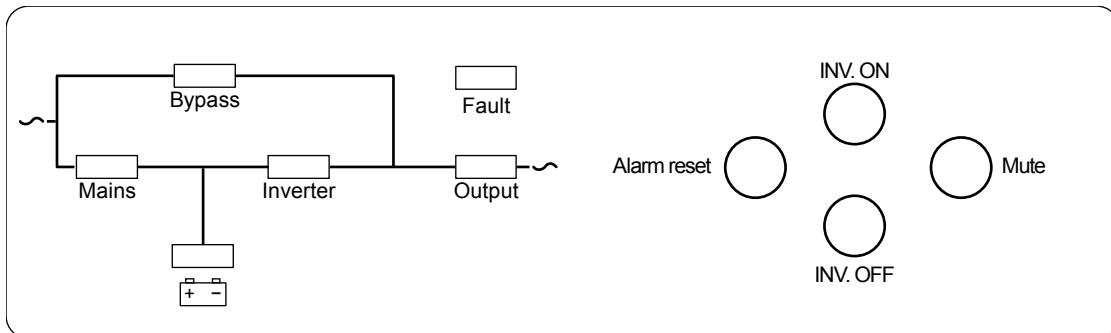

Figure 18 LED indicators and inverter operator keys
After a few seconds the Mains and Inverter LEDs are illuminated and the Bypass LED goes out (see Figure 18 on page 34) on the control module.
2. On the control module, press the **INV. OFF** button (see Figure 18 below) to put the unit into static bypass.
The following control panel is mounted on the control module. To access this panel, open the front door. The controls (Figure 18) allow you to change and/or view the status of the UPS.